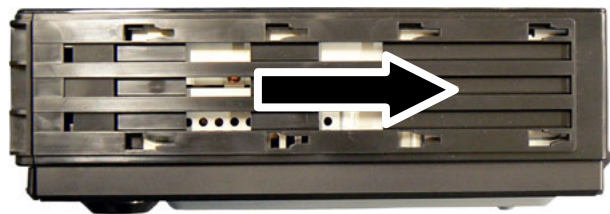

Fig.3
- (4) Slide to frontward and then remove the Right panel.
- (5) Slide to backward and then remove the Side panel. (See Fig.3)